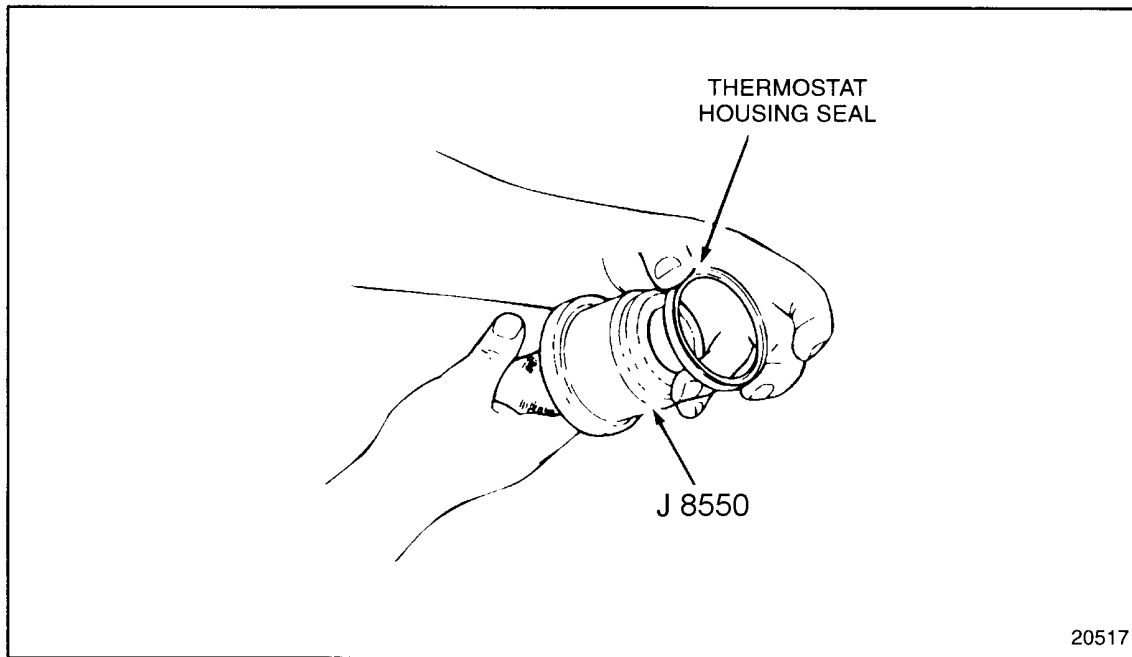

Figure 4-36 Positioning the Seal onto Seal Installer
1. Position the new seal onto seal installer, J 8550, and handle, J 7079-2. See Figure 4-36.